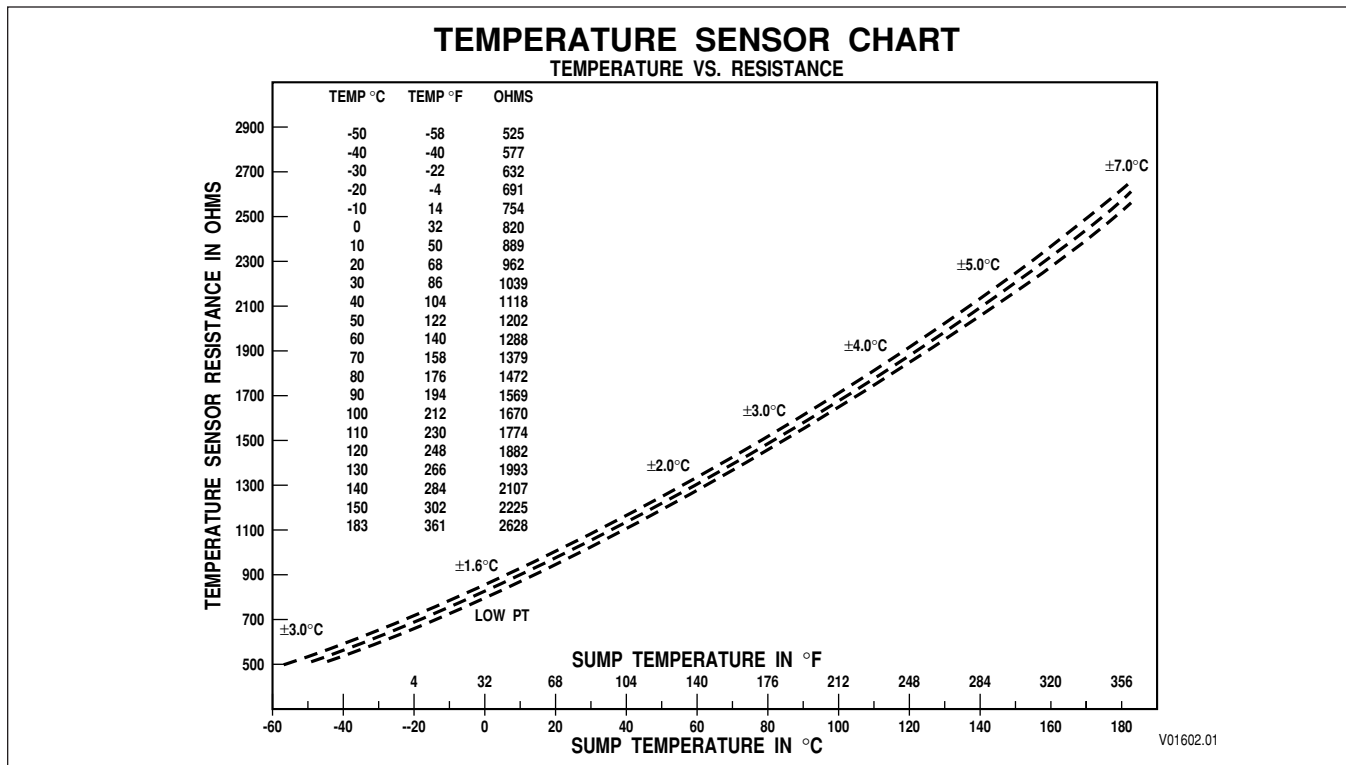

Figure 6–8. TransID 1 Temperature Sensor Chart
**CODE 22 XX—SPEED SENSOR/CIRCUITRY FAULT** (Figure 6–5)
**CODE 22 XX—SPEED SENSOR/CIRCUITRY FAULT** (*Figure 6–5*)
**CODE 23 XX—SHIFT SELECTOR** (*Figure 6–6*)
**CODE 24 XX—SUMP FLUID TEMPERATURE** (Figure 6–7)
2. After allowing the temperatures to normalize, if ambient temperature does not match the sump temperature reading (test using the Allison DOC™ For PC–Service Tool), compare resistance versus sump fluid temperature. Refer to Figure 6–8 for TID 1 thermistors and Appendix Q for TID 2 thermistors. If resistance test is acceptable, then test the sensor wiring for opens, shorts, or shorts-to-ground.
**CODE 24 XX—SUMP FLUID TEMPERATURE** (Figures 6–7, 6–8)
**CODE 24 XX—SUMP FLUID TEMPERATURE** (Figures 6–7, 6–8)**Table 6–4. Transmission Operation as a Function of Temperature**
2. If the fluid is not hot when the code is produced, remove the transmission “T” harness connector at the ECU and the transmission. Test the fluid temperature sensor wiring for opens, shorts, and shorts-to-ground. Compare the resistance readings of the sensor and the actual temperature as shown on the gauge with Figure 6–8 for TID 1 thermistors and Appendix Q for TID 2 thermistors. If wiring problems or a great difference between temperature and resistance compared with the chart are found, drain the fluid, remove the control module, and replace the temperature sensor. Refer to the proper transmission service manual. If wiring problems are found, repair or replace as necessary.